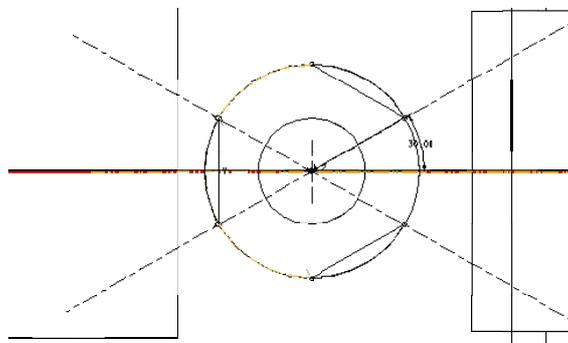

Figure 11: Sketch of the nut retaining protrusion, showing the use of centrelines.
- Using centrelines set at  $30^\circ$  sketch the three inserts, as shown in Figure 11. Use the **arc** and **line** commands to generate the general shape. If an error of unclosed section(s) is given on selecting **Done/Tick** use **Edit** → **Trim** (or icon entry) to join/trim the straight and arc lines.